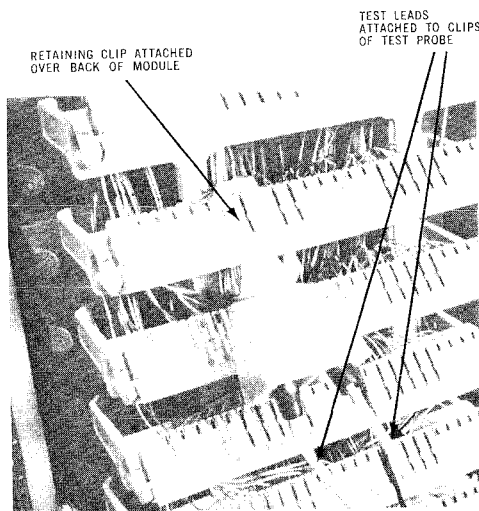

Fig. 13 — Test Probe Installed
6.02 The test probe, shown installed in Fig. 13, provides a means of connecting to a cable pair for proving circuits, testing, etc.